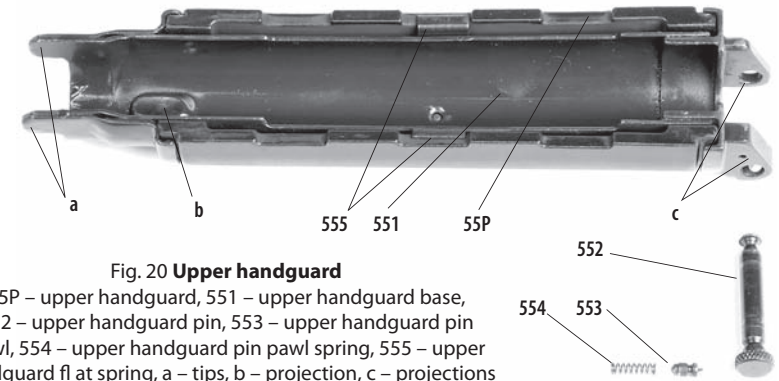

Fig. 20 **Upper handguard**
**The upper handguard** assembly (Fig. 20) covers the barrel from the top. It consists of polymer upper handguard 55P, metal jacket 551, upper handguard pin 552, upper handguard pin pawl 553, upper handguard pin pawl spring 554, upper hand guard front hoop 555 and rear hoop 556. Upper handguard picattiny rails allow attaching of red dot rights, flesh lights or any other accessories.